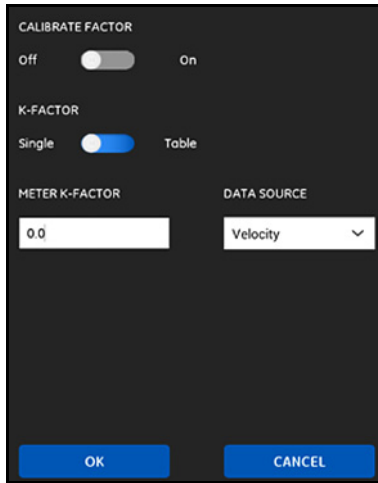

Figure 77: The Calibrate Factor Menu
1. Click on the **METER FACTOR** button to open the menu shown in *Figure 77* below.